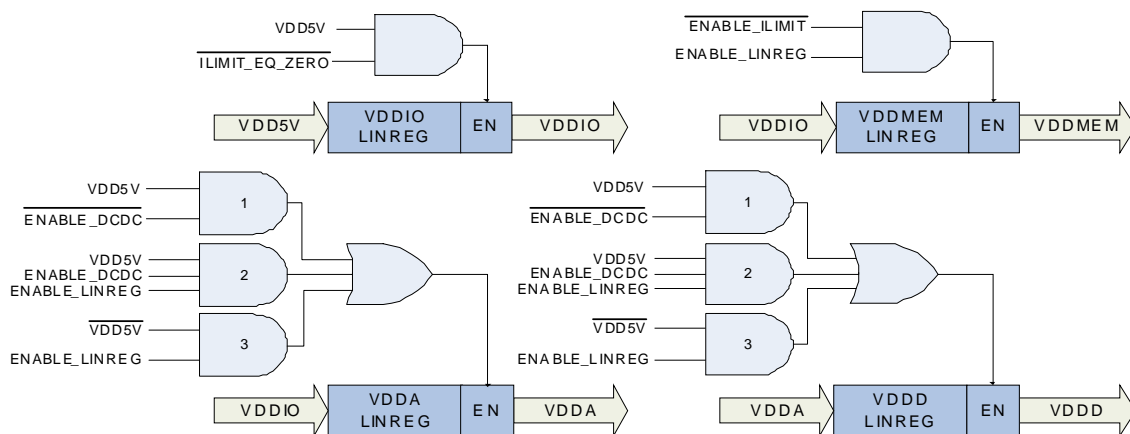

Figure 4. Enable Logic for Linear Regulators
Figure 4 shows the power source and enable logic for the LinReg.
As shown in Figure 4, the logic to enable the VDDIO and VDDMEM LinRegs is straightforward. In this case, only a single combination of bits is required to enable the LinReg. For the VDDD and VDDA power rails, three different combinations of bits are considered to enable the LinReg output—two combinations when the 5 V supply is powered-ON and the other when the 5 V supply is powered-off.
- The combination with the AND gate 1 in Figure 4 is the default configuration. In this case, the AND gate is triggered only when the `ENABLE_DCDC` is false and 5 V supply is powered-ON. This means that the availability of the 5 V supply can activate or deactivate the corresponding LinReg without any software interaction.
- In the combination with the AND gate 2 in Figure 4, the LinReg is activated when the 5 V supply is powered-ON, `ENABLE_DCDC` bit is true, and `ENABLE_LINREG` bit is true. When the 5 V supply is powered-ON and `ENABLE_DCDC` bit is true, the `ENABLE_LINREG` bit of the rail should be set to activate the LinReg. Note that the DC-DC converter is active because the `ENABLE_DCDC` bit is true.
- The combination with the AND gate 3 in Figure 4 occurs only when the 5 V supply is powered-OFF. Here, the VDDD and VDDA LinRegs are enabled by setting the `ENABLE_LINREG` bit.
1. From Figure 4, determine the logic that enables the LinReg